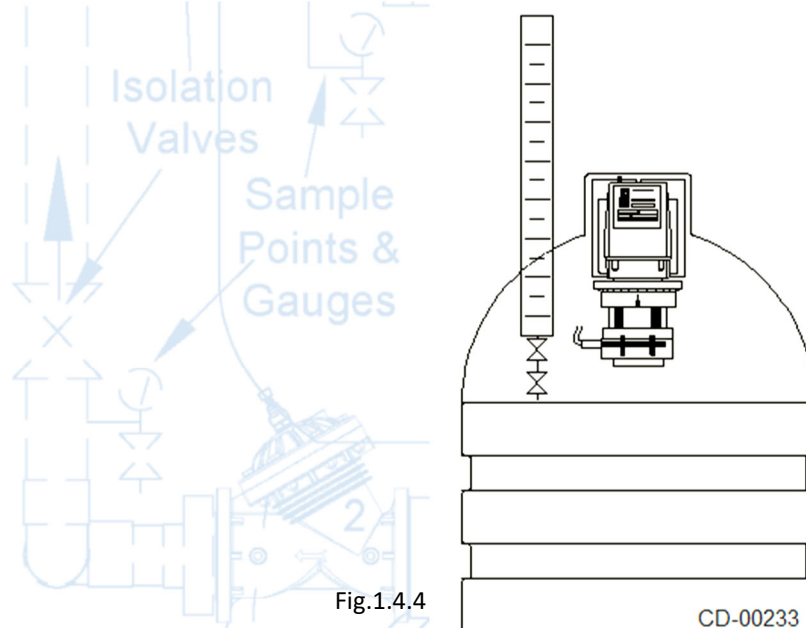

Fig.1.4.4
-Flow paced chemical feed systems of all capacities are available. A flow paced system may also include a contacting meter, and a PCM chemical pump controller. Another option is a calibration column (fig. 1.4.4).